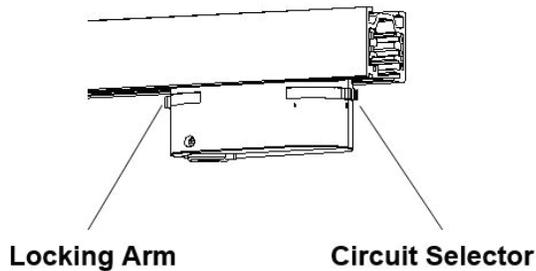
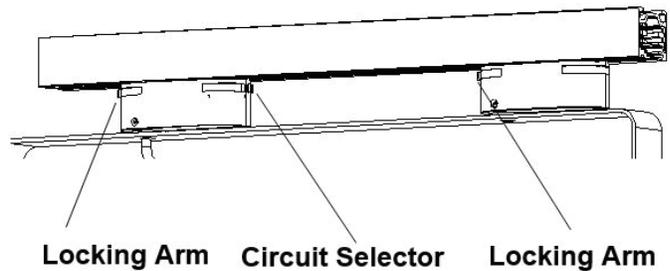

FIG 9B: INSERTED ADAPTER
FIG 9C
4. Insert adapter (Fig 9b, Fig 9c).